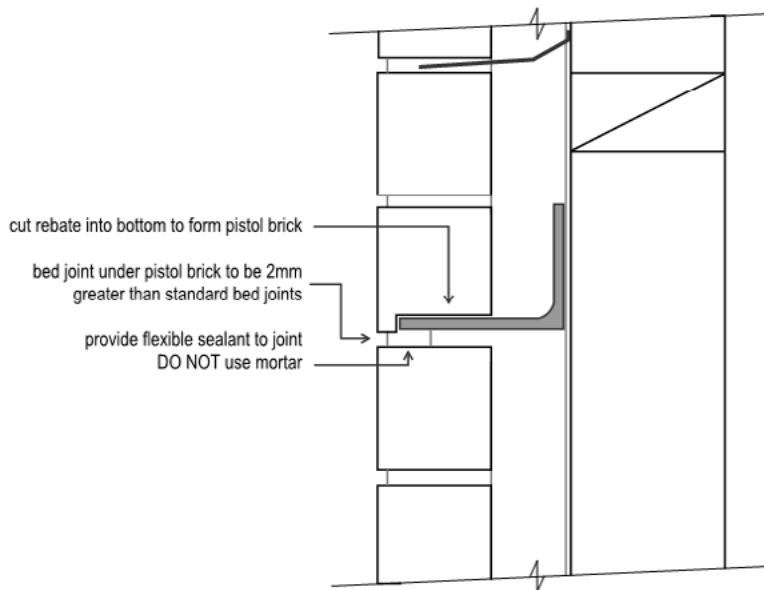

Figure 2 – Recommended hidden shelf angle detail
- Installation of a mid-wall shelf angle at 6.0m, or at the structural floor level of the third storey floor (whichever is smaller), in accordance with Figure 2.